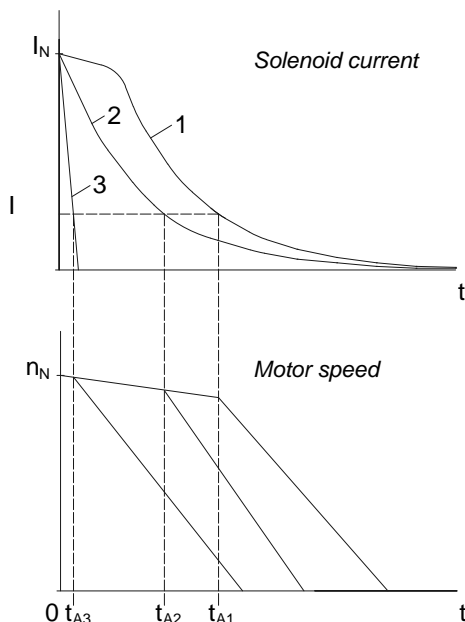

Figure 3: Development of the solenoid current and the motor speed after AC (1, 2) and DC (3) disconnection
- a) Rectifier supply from the motor terminal board (Figure 3, graph 1)
- b) Separate rectifier supply (Figure 3, graph 2)
4.1.2.2 Interruption in the DC switching circuit of the solenoid (Figure 3, graph 3)